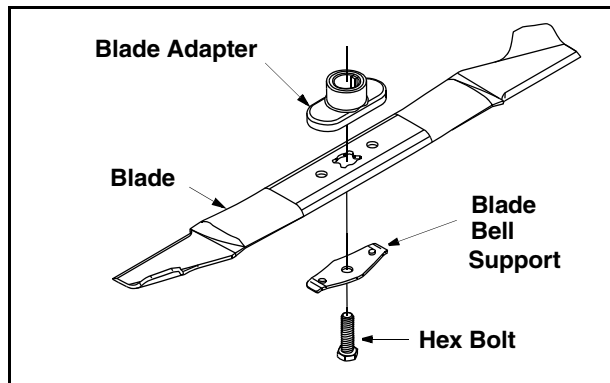

Figure 12
- Remove the bolt and blade bell support which hold the blade and adapter to the engine crankshaft. See Figure 12. Remove the blade and adapter from the crankshaft.
- Install the blade adapter on the crankshaft with the "star" away from the engine. Refer to Figure 12. Place the blade with the side marked bottom (or with part number) facing away from the adapter.